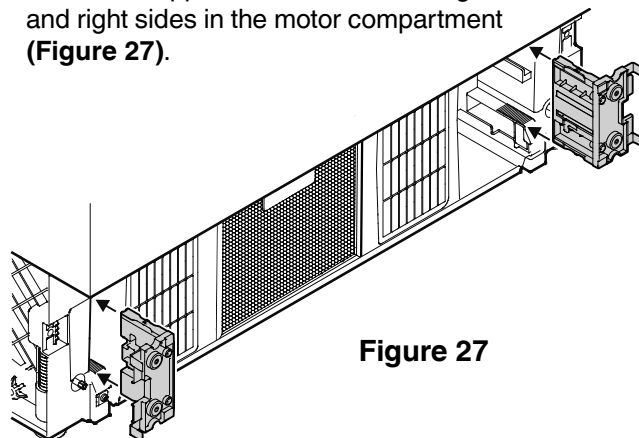

Figure 27
4. Insert the supports for the ventilation grille on the left and right sides in the motor compartment (**Figure 27**).